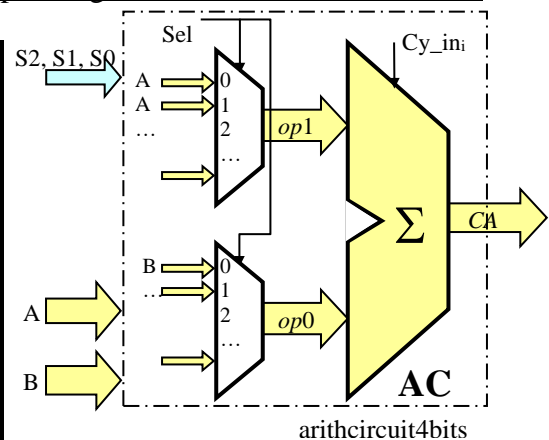

Fig. 5: AC block diagram
5.4.1. The block diagram of the Arithmetic Circuit (AC) is shown in Fig. 5. AC consists of a **4-bit full adder** (Σ) which calculates the output CA as a function of operands op1 and op0, and of the micro-operation select bits $S2, S1$ and $S0$, as described in Table 1.